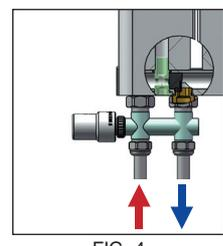

FIG. 4
- E (fig. 4, 5) Connect the valves with 50 mm interaxis